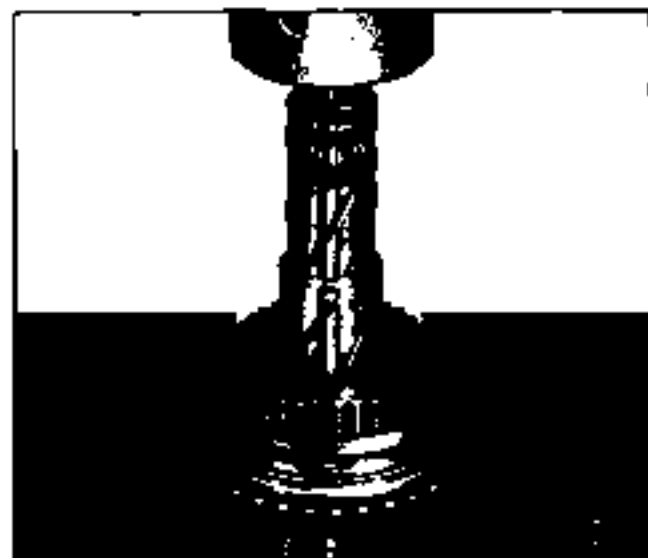

Fig. 7A-16 Removing Reverse Synchronizer Hub and Sliding Gear
3. Coat the bore of the input shaft and gear (Fig. 7A-22) with a thin film of grease and install the 15 bearings in the bore.